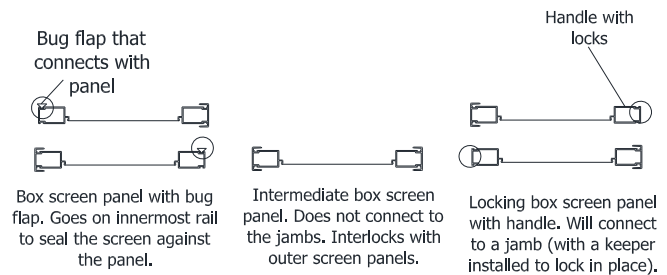

Figure 25
33. Box screen panels have different components based on configuration. Identify correct screen panel placement using Figure 25.